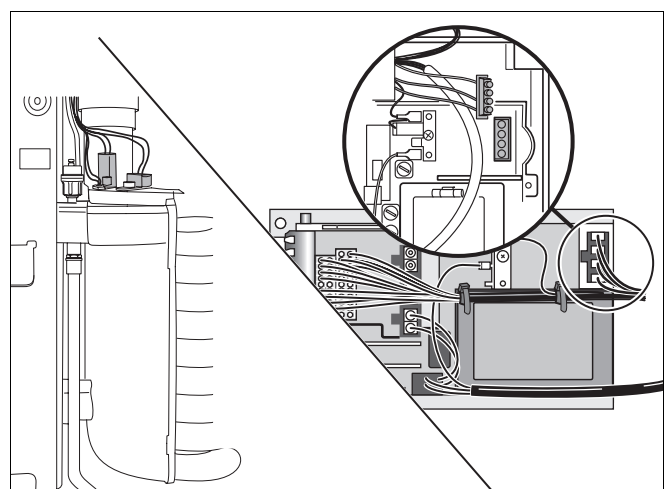

Fig. 66 Disconnect the plug-in cable from the UBA housing
- Unplug glow ingitor connection cable from UBA (fig. 66).